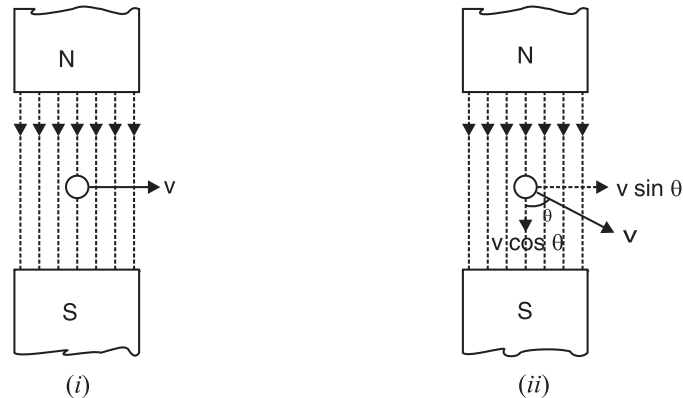

Fig. 9.5
Consider a single conductor of length  $l$  metres moving at \*right angles to a uniform magnetic field of  $B$  Wb/m2 with a velocity of  $v$  m/s [See Fig. 9.5 (i)]. Suppose the conductor moves through a small distance  $dx$  in  $dt$  seconds. Then area swept by the conductor is  $= l \times dx$ .
**Special case.** If the conductor moves at angle  $\theta$  to the magnetic field [See Fig. 9.5 (ii)], then the velocity at which the conductor moves across the field is  $*v \sin \theta$ .